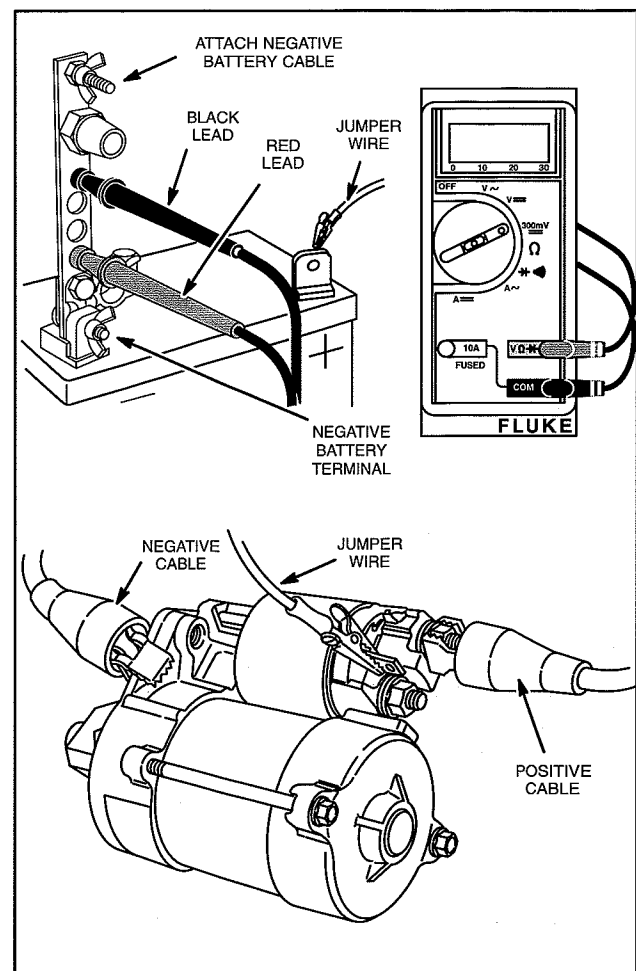

Fig. 47 – Testing Starter (No Load)
The DC Shunt **must** be installed on the **negative (-)** terminal of the battery, Fig. 47.
5. Attach one end of jumper wire to solenoid tab terminal, Fig. 47.
6. Activate starter by contacting positive battery terminal with other end of jumper wire, Fig. 47.